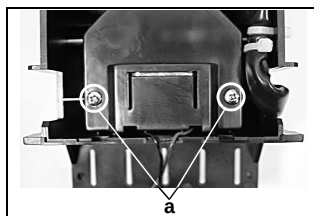

Figure 3-10 Motor Cover Removal
14. Remove the two screws securing the motor cover from the lower assembly and remove the motor, gears and drive belts from the assembly (See Figure 3-10 a).